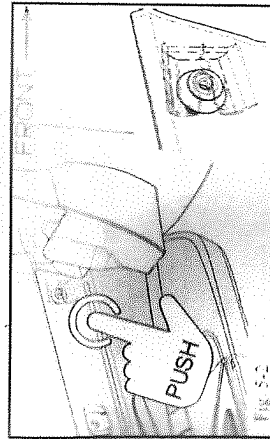

Fig. 5-2
- (b) Press the front of the running board so that the plastic clip engages into the rocker panel (Fig. 5-2).